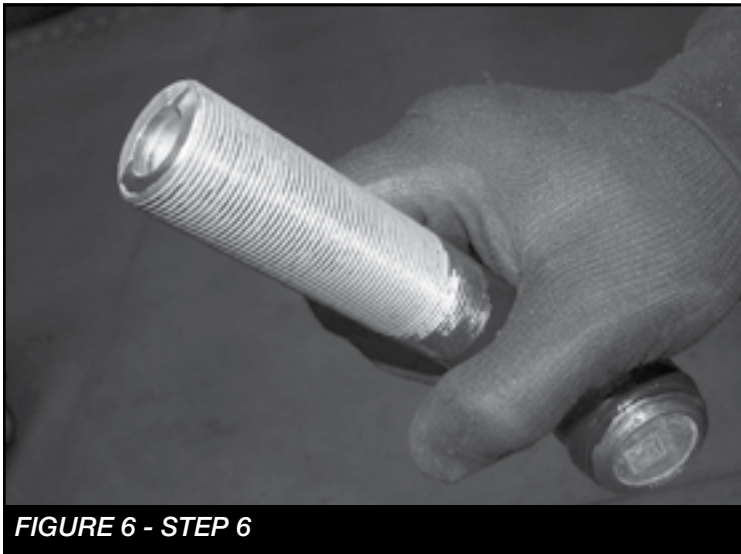

FIGURE 6 - STEP 6
6. Remove the collar from the rod end. The ear on the threaded end will need to be cut off flush. **SEE FIGURE 6**